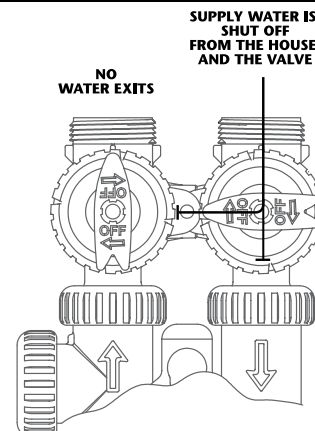

Figure 4
4. **Shut Off Position:** The inlet handle points to the center of the bypass valve and the outlet handle points away from the control valve. The water is shut off to the building. The water treatment system will depressurize upon opening a tap in the building. A negative pressure in the building combined with the softener being in regeneration could cause a siphoning of brine into the building. If water is available on the outlet side of the softener or filter it is an indication of water bypassing the system (*figure 4*) (i.e. a plumbing cross-connection somewhere in the building).